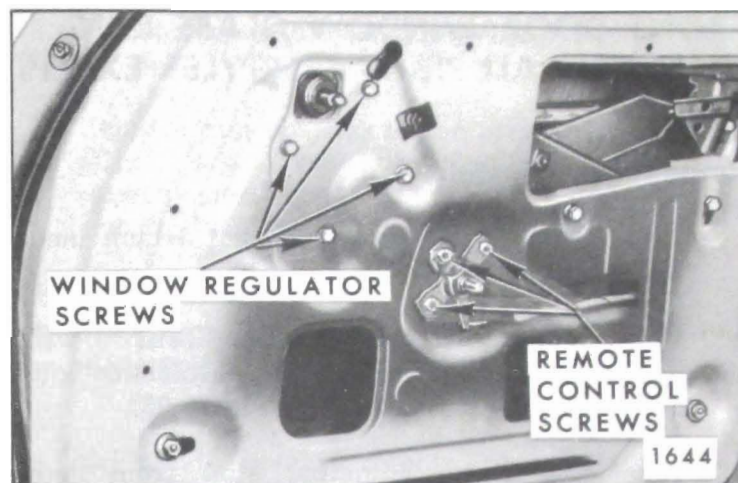

Fig. 7-95—Front Door Hardware - "Z" Styles
- e. On “Z” Body Styles, remove regulator through large access hole (see Fig. 7-95).